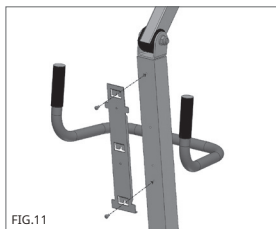

FIG.11
2. Attach the control module support hook to the column with the supplied screws and screw in the corresponding holes. (Fig.11)